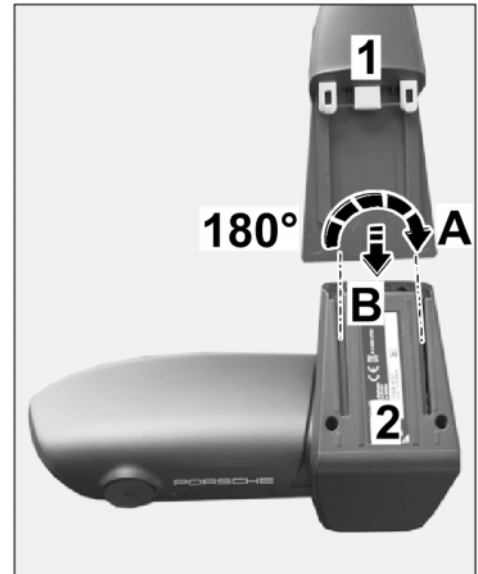

Figure 7
2.1.1 Install retainer plate with wire harness on the base of the front camera until the locking mechanism engages (⇒ *Figure 7*).